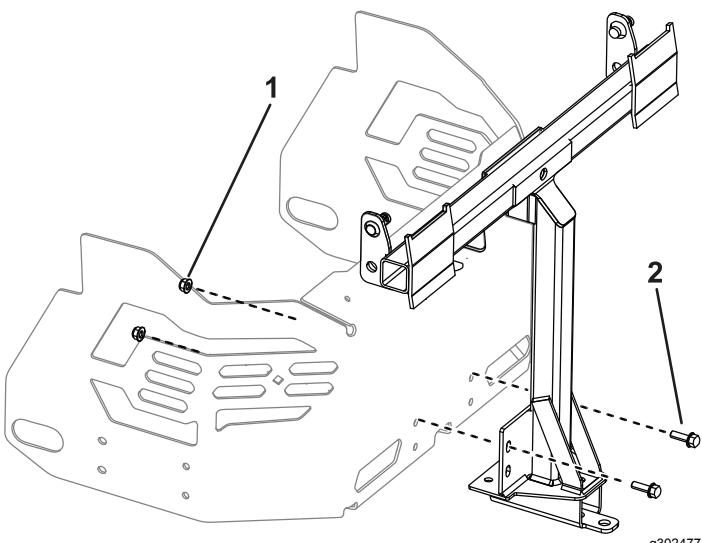

Figure 3
2. Install the stabilizer bracket to the engine guard using 2 carriage bolts (5/16 x 3/4 inch) and 2 locknuts (5/16 inch) as shown in Figure 3.